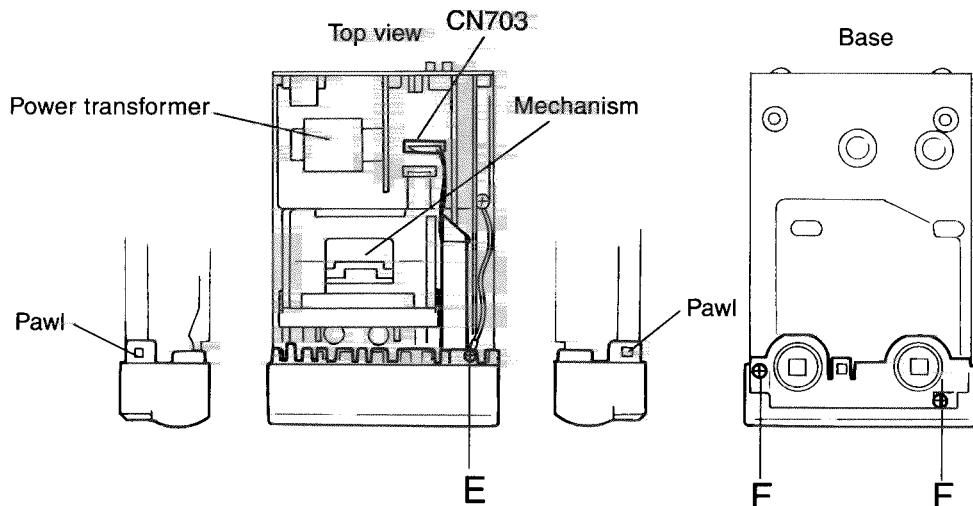

Fig. 4
■ Detaching the front panel assembly (Fig. 4)
2. Remove the screw (E) securing the front panel ground wire.
3. Remove the two screws (F) securing the front panel from the base.